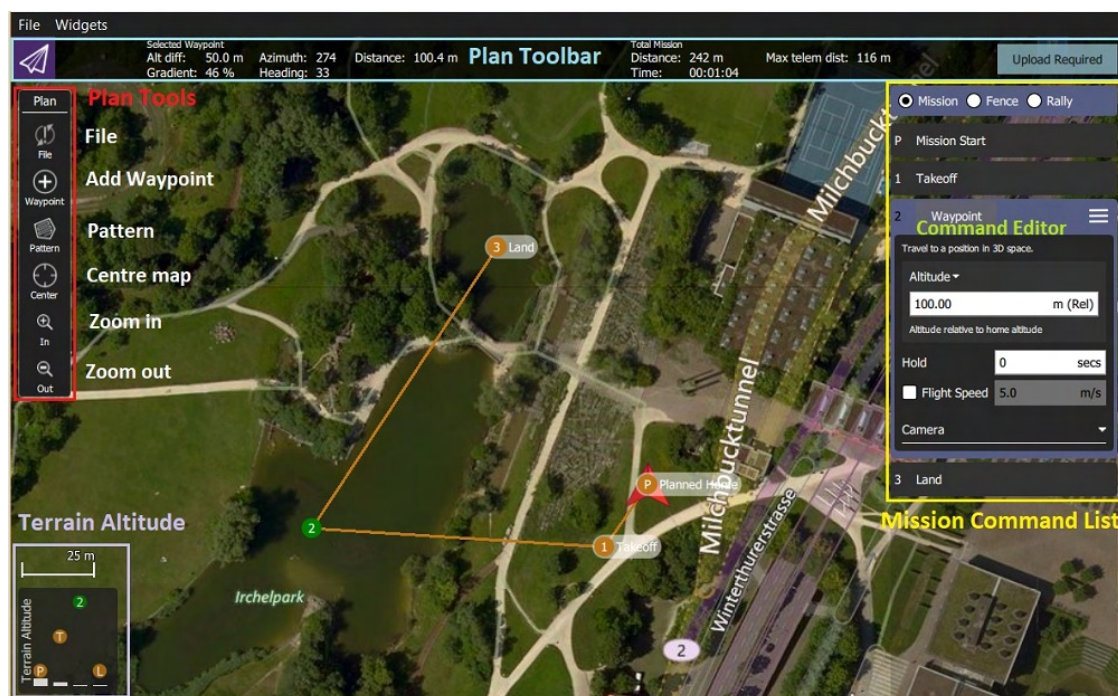

Figure 11. QGroundControl Screenshot of Mission Plan
Figure 11 below is a screenshot of a mission plan in QGroundControl. The mission starts with a takeoff at the Planned Home position (H), flies through three waypoints, then lands on the last waypoint (waypoint 3).
The main elements of the User Interface (UI) for planning a mission are described below (see Figure 11 on the previous page)